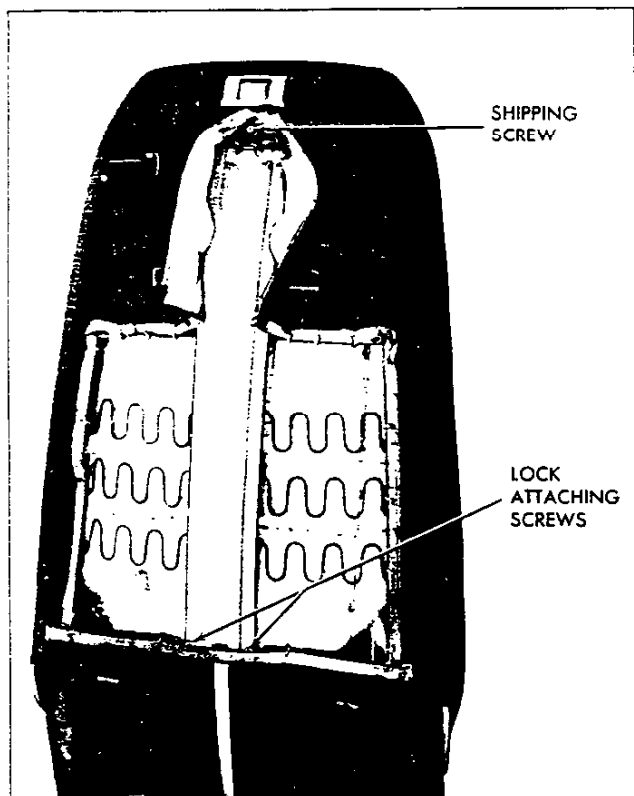

Fig. 48—Front Seat Back Lock Attachments
- IMPORTANT:** If removing and reinstalling same lock assembly, install lock up screw at location shown in Figure 48.
**IMPORTANT:** After all lock assembly attaching screws, including lock strap-to-cushion frame screws, have been tightened, remove shipping screw at location shown in Figure 48.